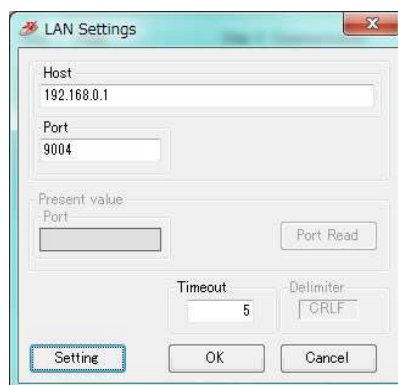

Figure 3-6 : LAN settings
⑥ Chooses setting. (Figure 3-6)